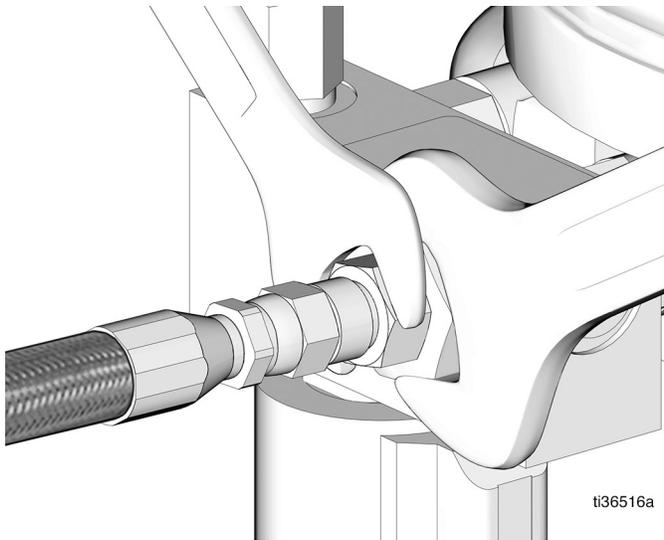

FIG. 8
- 10. Reconnect the main line (FIG. 8).